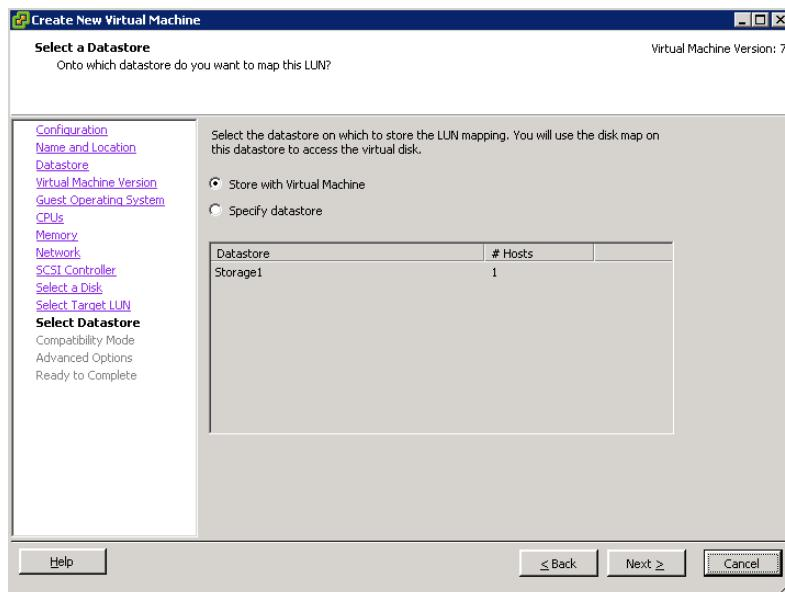

Figure 5-41. Create New Virtual Machine—Select Datastore
8. Select the datastore on which to store the LUN mapping. In this example, click **Store with Virtual Machine**, and click **Next** (Figure 5-41).